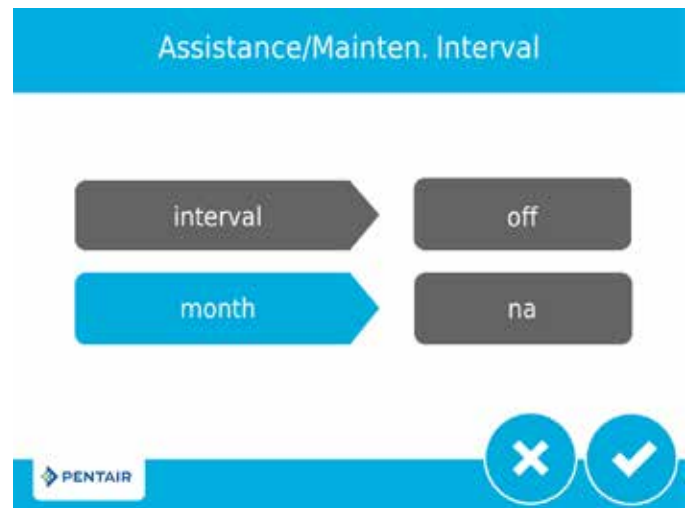

Figure 6 Assistance/Mainten. Interval Screen
4. After pressing , the Assistance/Mainten. Interval screen (Figure 6) is displayed.